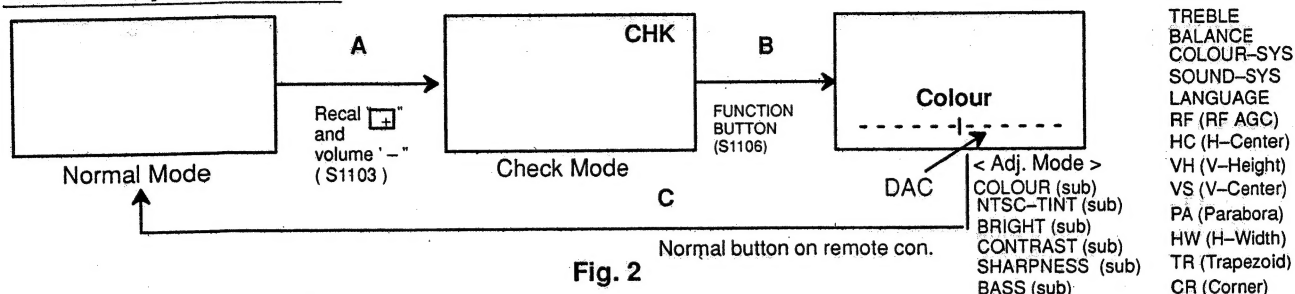

Fig. 2
- A: Simultaneously press the Recall button [] on the remote control unit and the VOLUME DOWN button [] (on the TV set). The TV in the Normal mode changes to check mode. "CHK" will appear on the screen as shown in Fig. 2.
- B: Press the Function button (S1106) to select the required adjustment to be adjusted as shown in Fig. 2. Press the Volume "up" or "down" button on the TV set to change the DAC level.